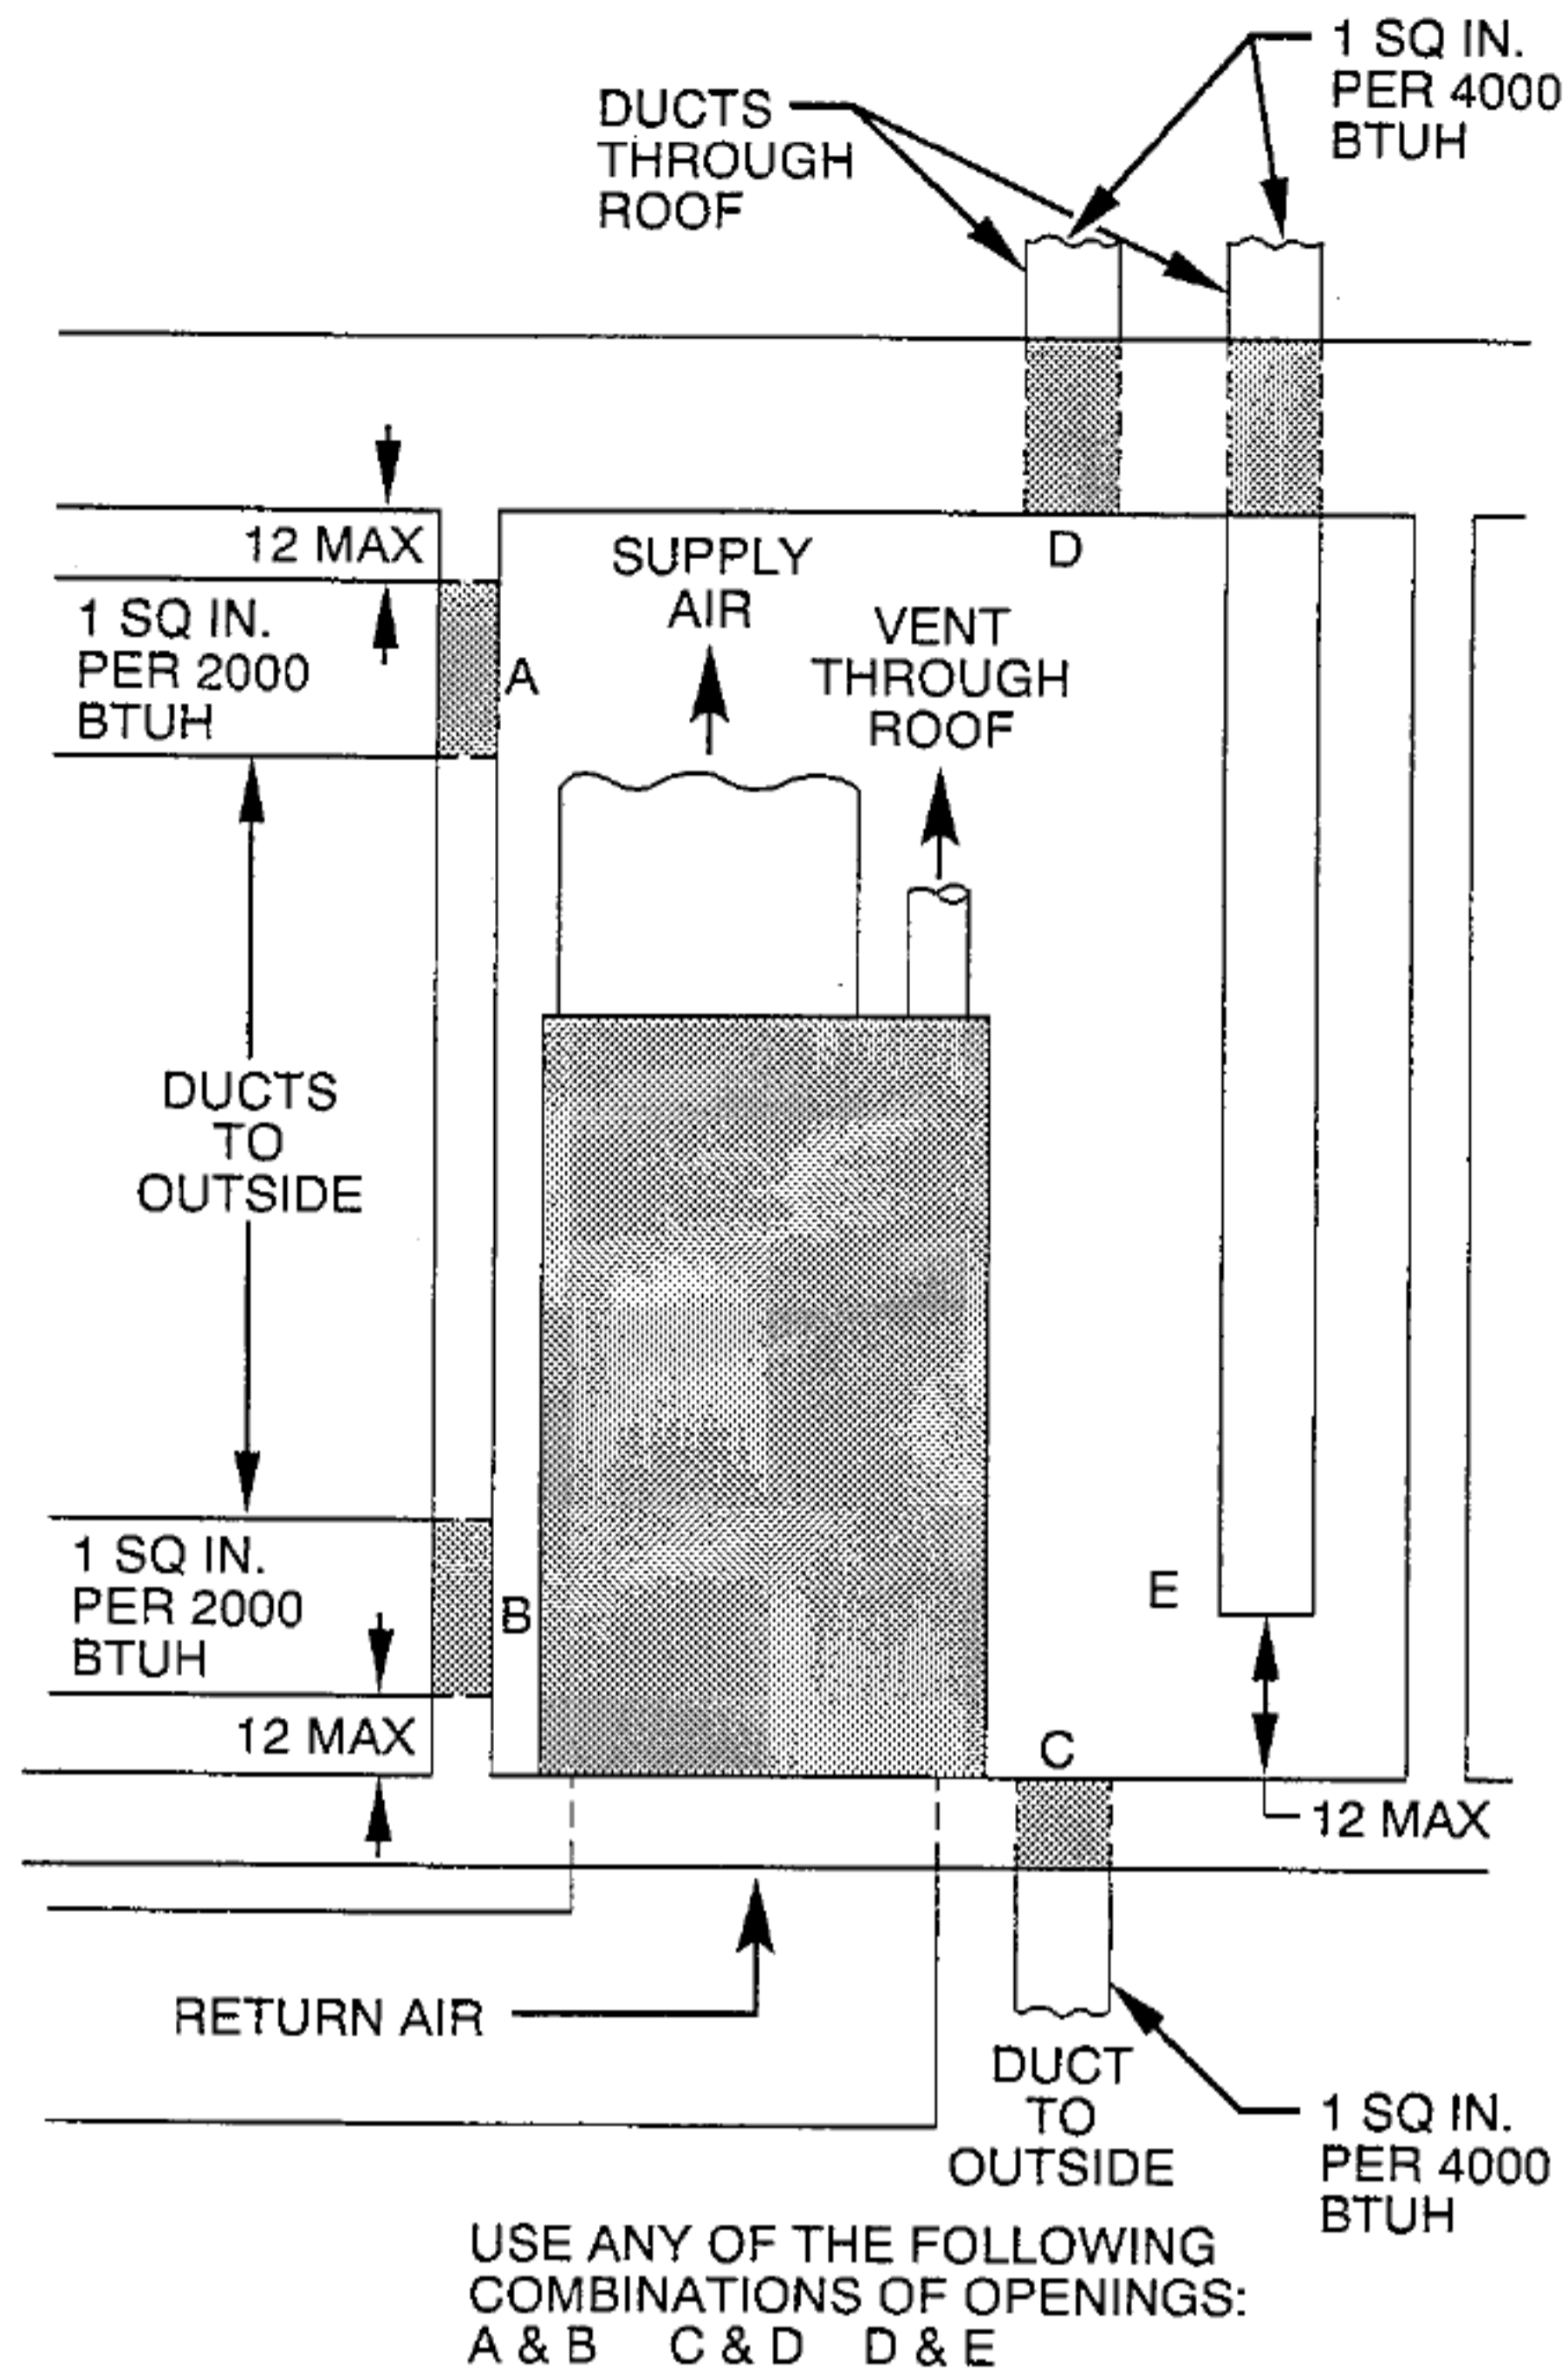

Fig. 3—Air For Combustion and Ventilation (Outside Air)
- a. If combustion air is taken from outdoors through vertical ducts, the openings and ducts MUST have at least 1 sq in. of free area per 4000 Btuh of the total input for all equipment within the confined space. (See Fig. 3.)
When ducts are used, they must be of the same cross-sectional area as the free area of the openings to which they connect. The minimum dimension of rectangular ducts must not be less than 3 in. (See Fig. 3.)